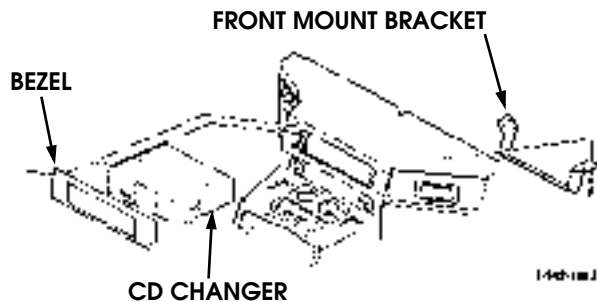

Figure 13-73: CD Changer Installation
1. Remove four screws retaining the CD changer bezel to the console and remove bezel (See Figure 13-73).